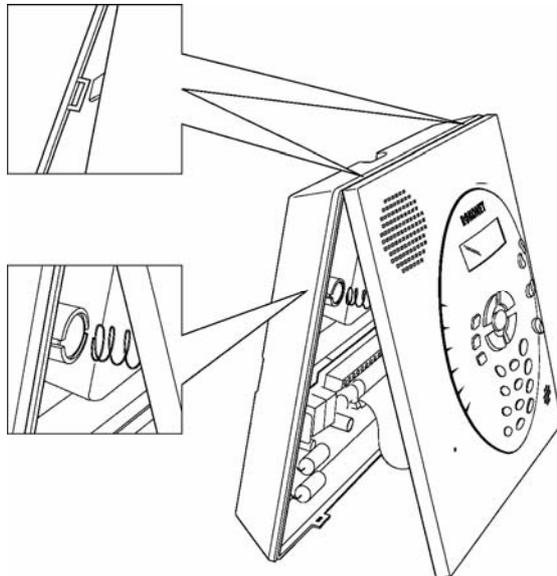

Figure 2-5: Locking tabs and Tamper Spring
- ❖ Snap the front panel onto the upper tabs of the appropriate slots on the back panel. Pay attention to the placing of the tamper spring (see figure 2-5).